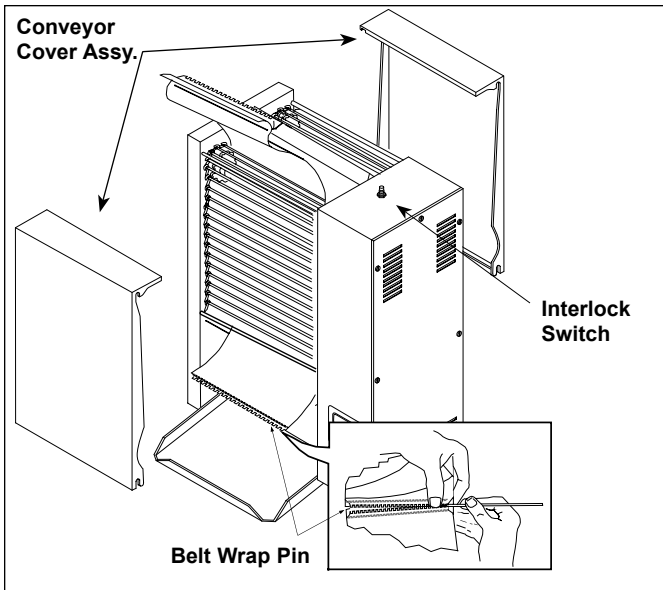

Figure 11. Removing Belt Wrap
4. Remove front and rear conveyor cover assys. (Figure 11). Wipe exterior of belt wraps with a clean, sanitized towel.
4. Move belt wraps until connecting hinge is exposed and centered, then remove both front and rear belt wraps (Figure 11).
8. Install a new release sheet (Figure 11).